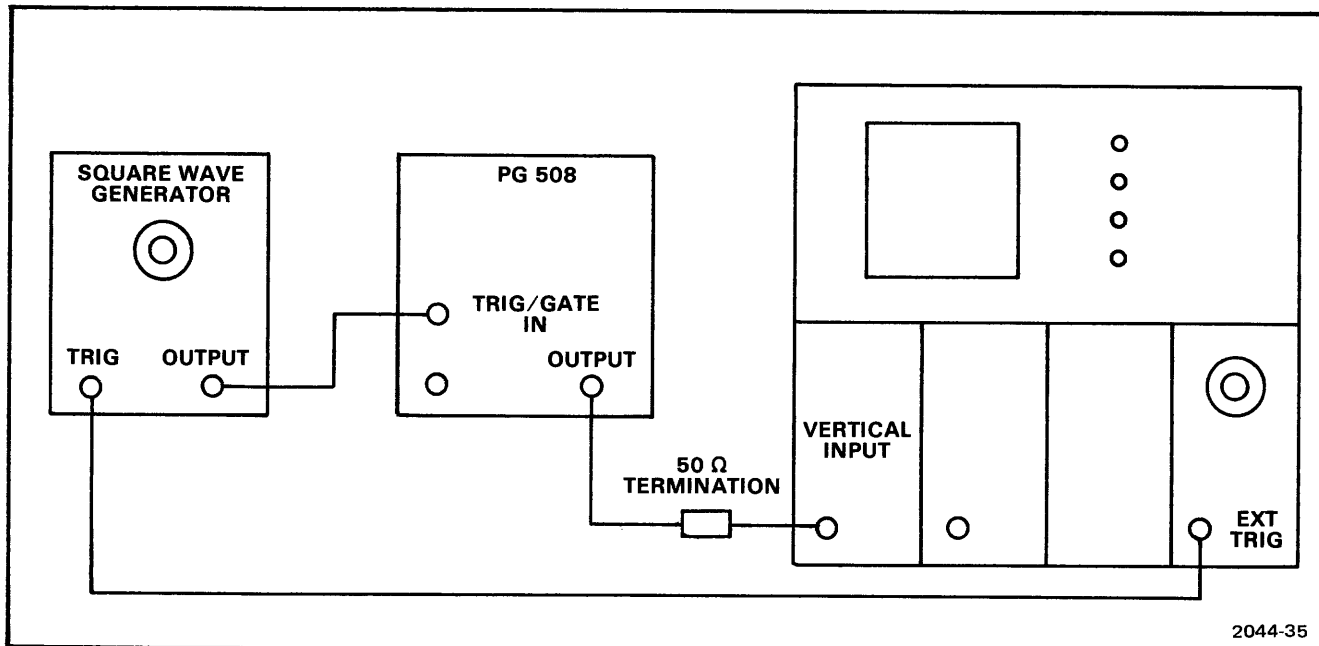

Fig. 4-3. 1st period adjustment instrument connections.
- b. Connect a coaxial cable from the OUTPUT of the PG 508 through a 50  $\Omega$  termination to the vertical input of the oscilloscope. See Fig. 4-3.
- c. Trigger the oscilloscope externally from the square wave generator. (See Fig. 4-3).
- a. Connect the instruments as shown in Fig. 4-3.